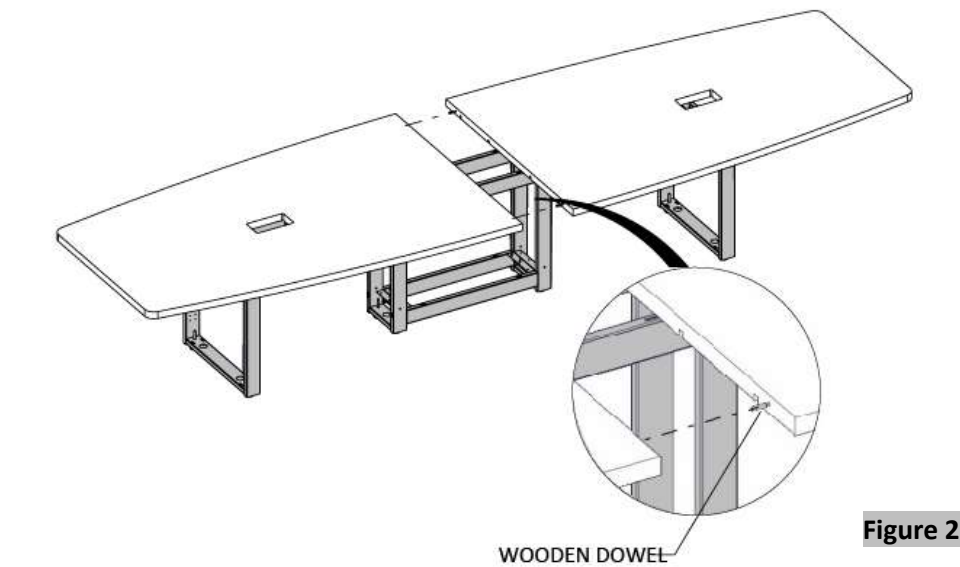

Figure 2
- Place the 2 surfaces on top of table base and attach them together by inserting wooden dowels, (Figure 2).